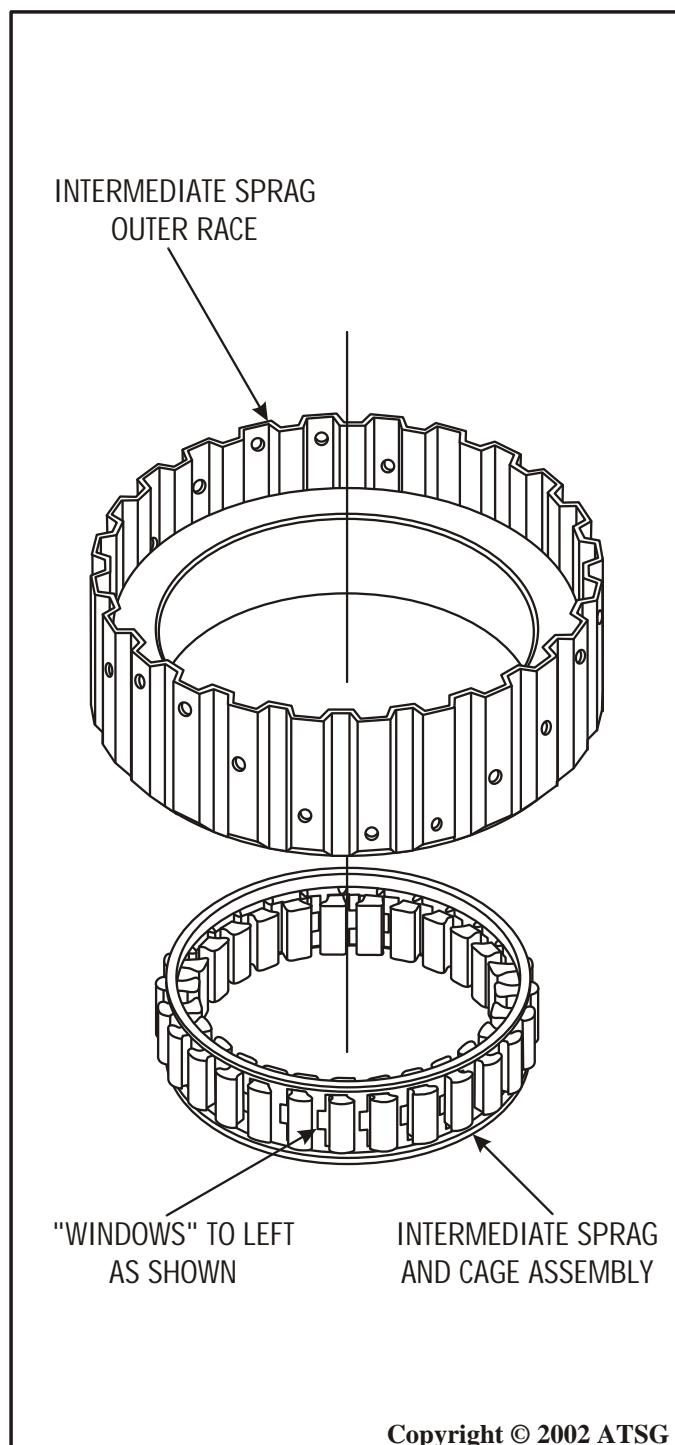

Figure 108
9. Install the intermediate sprag cage assembly in the outer sprag race **exactly** as shown in Figure 108, with the "windows" to the left, and ensure that the outer race is arranged as shown. Refer to Figure 108.